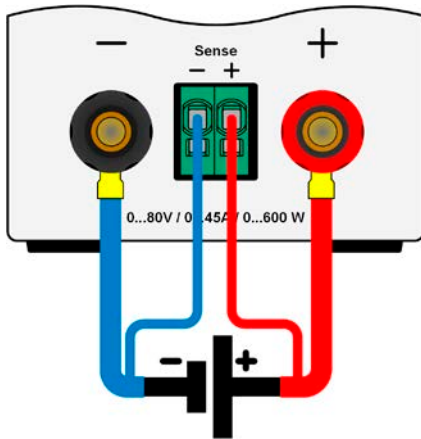

Figure 6 - Example for remote sensing wiring
- *Remote sensing is only effective during constant voltage operation (CV) and for other regulation modes the sense input should be disconnected, if possible, because connecting it generally increases the oscillation tendency.*
- *Sensing cables must be connected + to + and - to - at the source, otherwise the sense input of the electronic load can be damaged. For an example see Figure 6 below.*